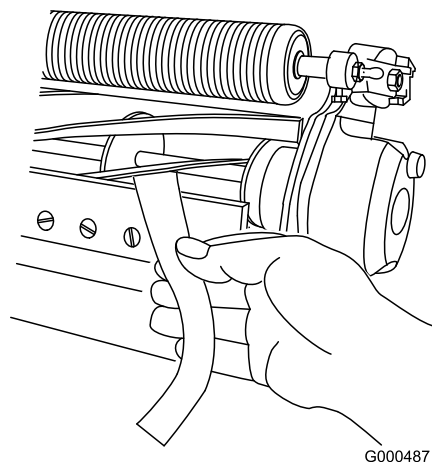

Figure 11
11. Test the cutting performance by inserting a long strip of cutting performance paper (Toro part number 125-5610) between the reel and bedknife, perpendicular to the bedknife (Figure 11). Slowly rotate the reel forward; it should cut paper